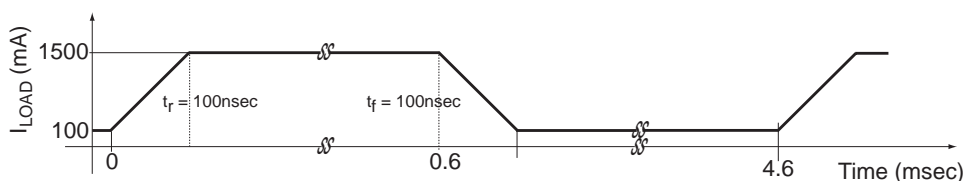

Figure 3. Load Transient Response Test Waveform
- Refer to the load transient response test waveform in Figure 3.